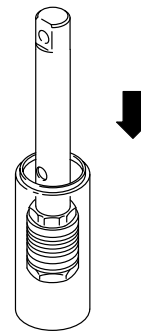

Fig. 32 02575
- Carefully slide the piston assembly into the top of the sleeve. See Fig. 32.